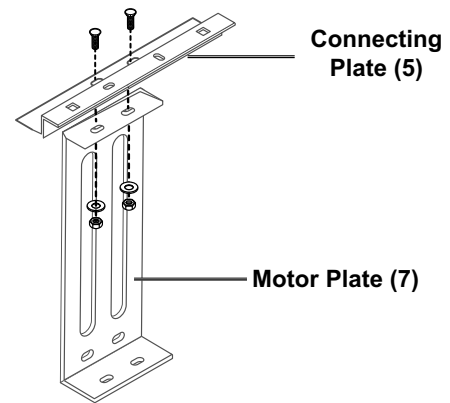

Figure 1
1. Insert two Carriage Bolts (55) through the lower tier of the Connecting Plate (5) and fasten to the top end of the Motor Plate (7). The top end of the Motor Plate has the shorter flange and the bottom end has the longer flange. See Figure 1.